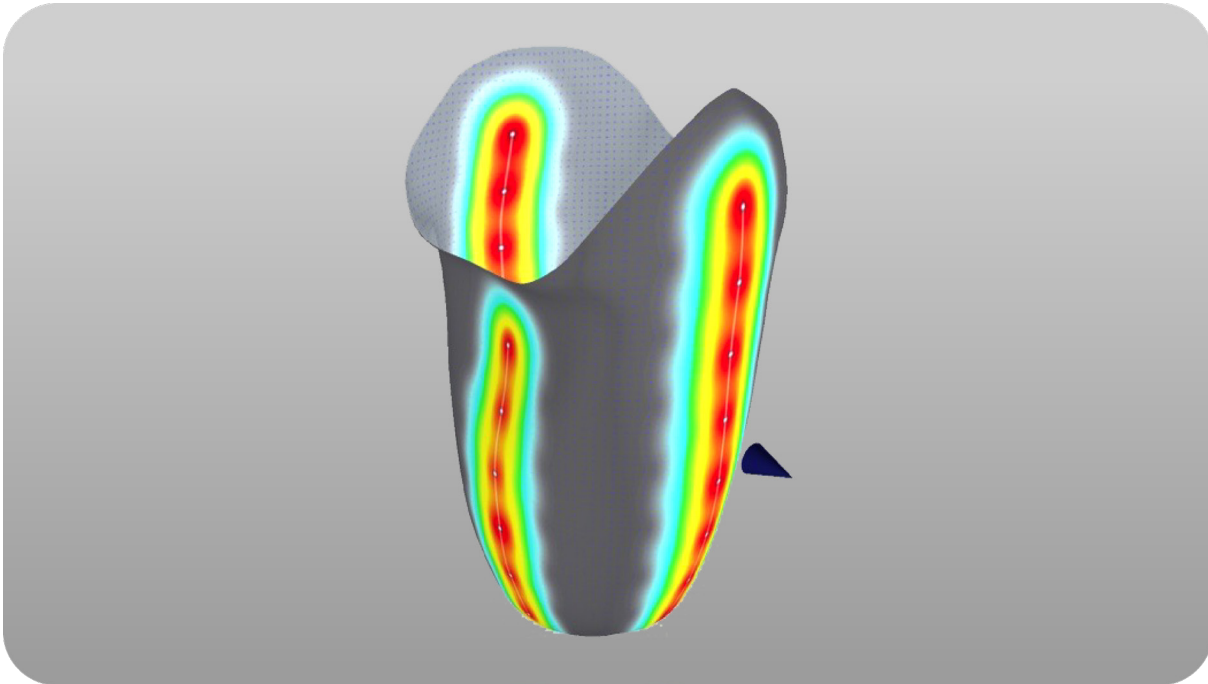

Figure 14: Example of total contact and appropriate distribution of pressure along total surface bearing socket.
4. Compare to an “appropriate fit” pressure visual (Figure 14).